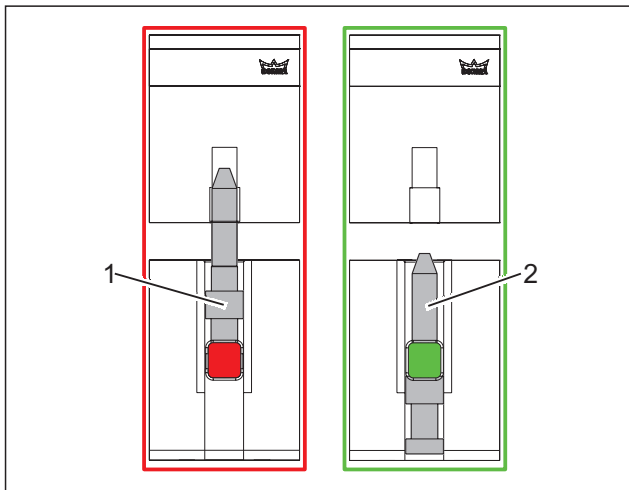

Fig. 4 Upper slide bolt
- Locking bolt up (Fig. 4/1)
- Locking bolt down (Fig. 4/2)